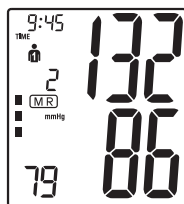

Fig. 6
- Pressing the MEMORY (M) button again allows the user can view the measurement results from the newest to the oldest (Figures 6 and 7).